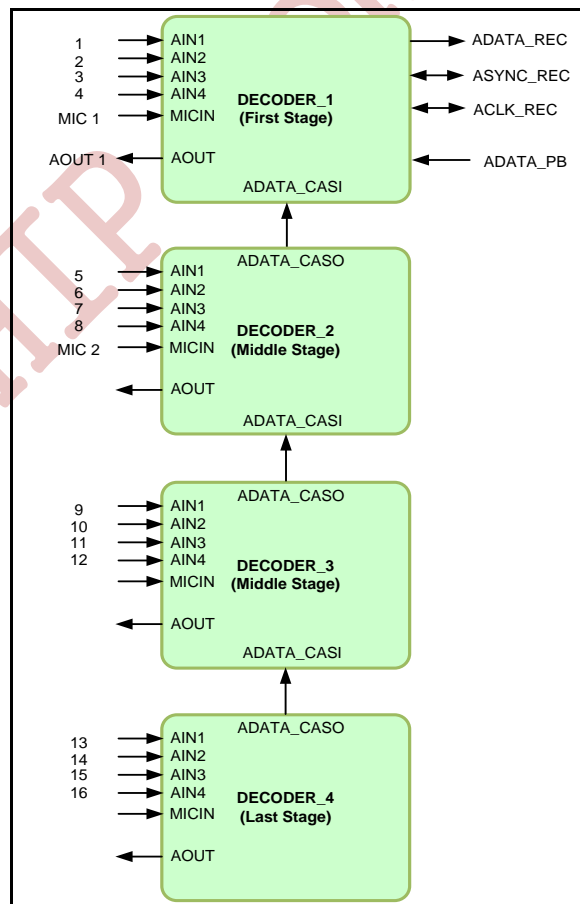

Figure 3.10 Consist of Cascade System using 4-NVP6158C
**NVP6158C** supports cascade mode. Maximum 4-**NVP6158C** chips can be connected together for cascade mode and can be processed 18 channel audio encoding data(16-Ch Audio/2-Ch mic). Cascade is enabled by setting register(**CHIP\_STAGE**, 0x06[1:0], **BANK1**). Figure 3.10 shows how to connect **NVP6158C** for the cascade mode. In this case, analog audio **AOUT1** is assigned to **AIN1-16** and **MICIN1-2**. 1 channel audio or all channel mixed audio signal is selected as output signal set by **MIX\_OUTSEL**(0x23[4:0], **BANK1**).